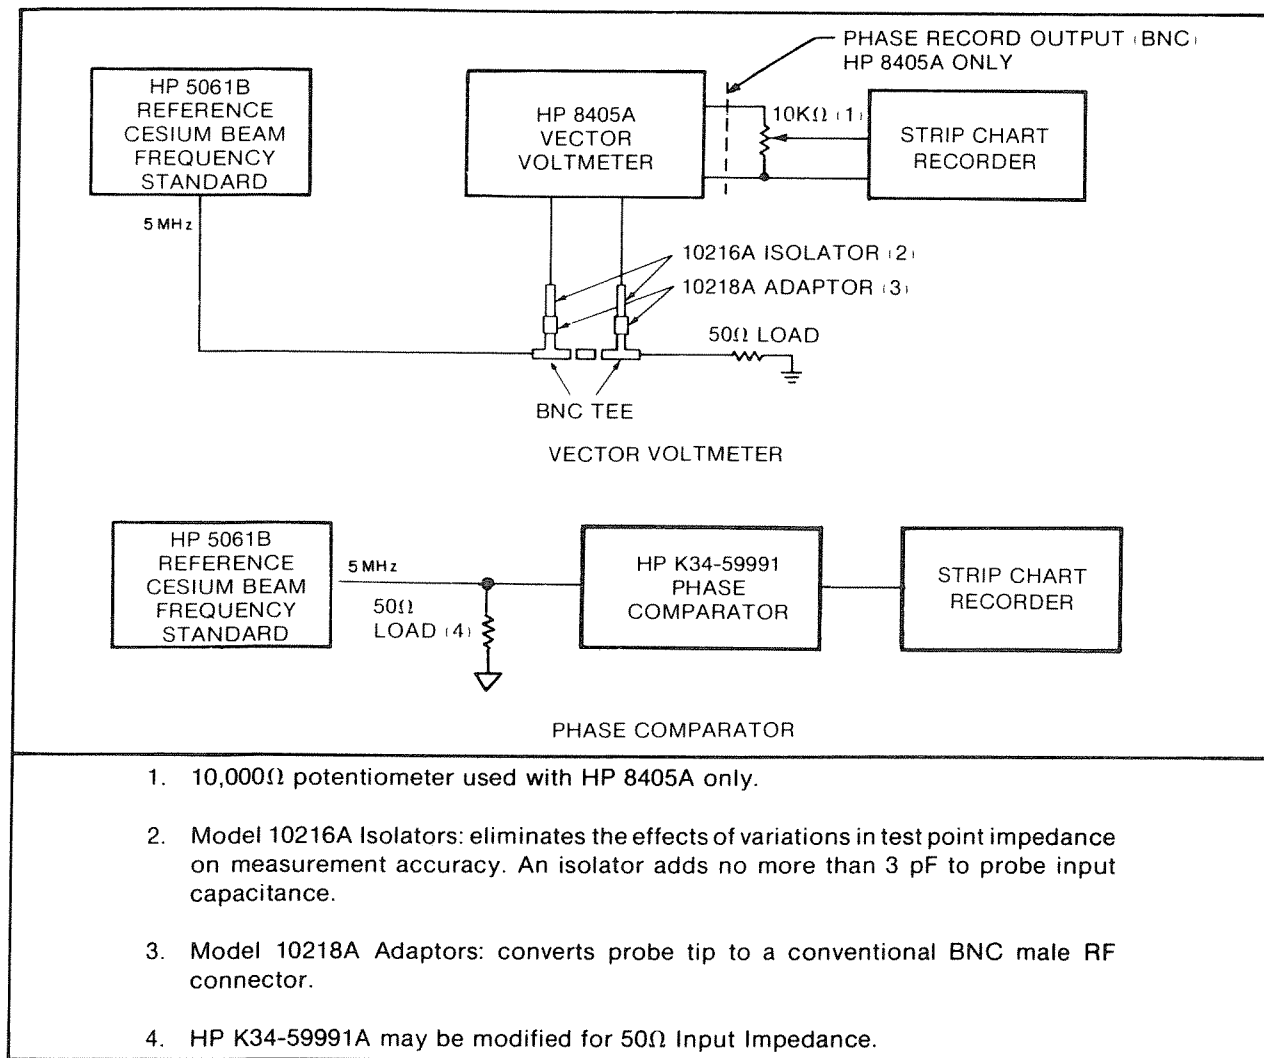

Figure 3-10. Vector Voltmeter/Phase Comparator Calibration Test Setup
- a. Connect the test equipment as shown in *Figure 3-10*.